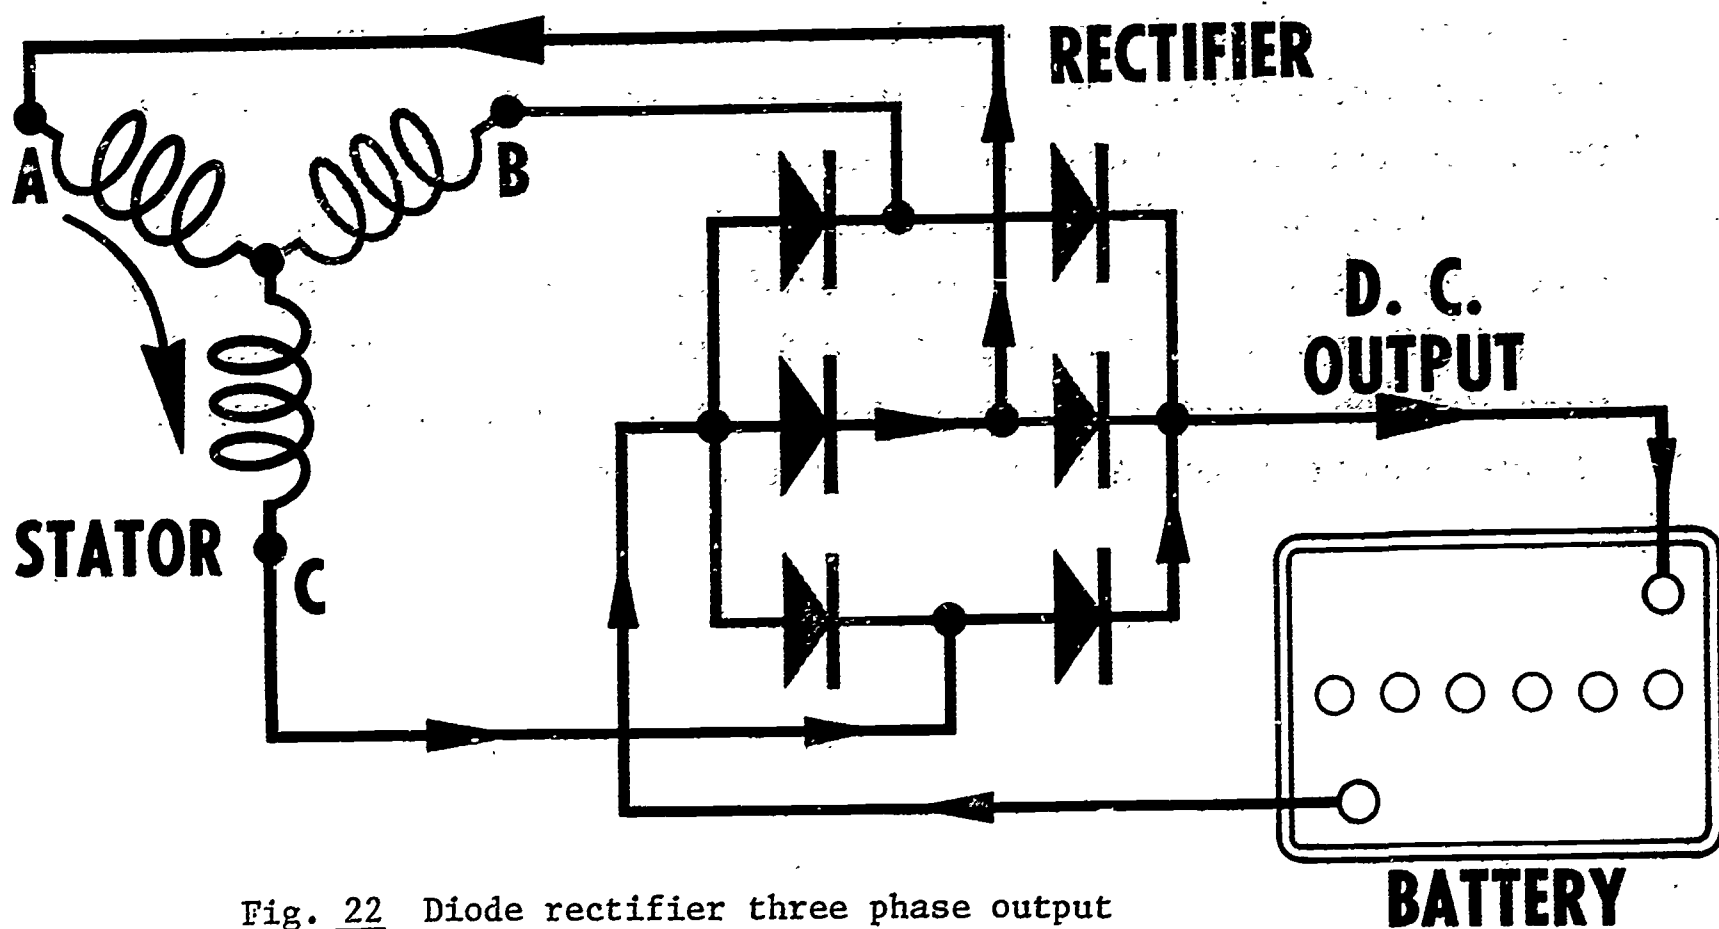

Fig. 22 Diode rectifier three phase output
Continuing its flow back to the rectifier, the current then travels through the diode connected to the (C) winding and on through to the (A) terminal where it started. In Figure 22, the voltage in the windings (A) and (C) is in an opposite direction due to the influence of rotor poles of the opposite polarity on the stator windings. The voltage developed in coils (A) and (C) will cause current to flow from the (C) terminal to the diode rectifier. Current then flows through the diode connected in the proper manner to permit current flow. From this diode, current continues to the (BAT) terminal of the alternator and on through the battery to the return circuit. Continuing its course back to the rectifier, the current travels through the diode connected to the (A) winding and on through to the (C) terminal where it started.